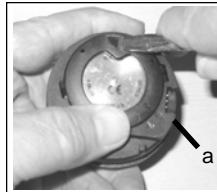

Fig. 77 -Tightening the Retaining Ring
- Using your fingers, turn the Ring counter clockwise 5 degrees until the tabs engage (Fig. 76), then tighten it 5 more degrees by turning it counter clockwise using the Battery Hatch Tool (Fig. 77).